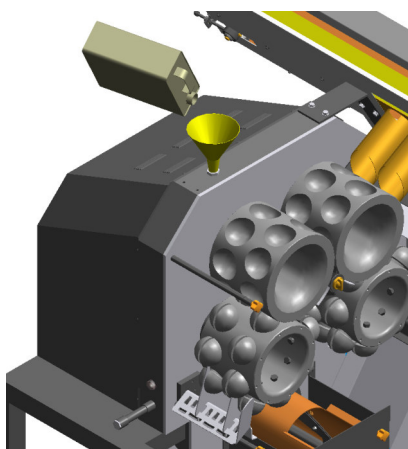

Figure 7
**A) OIL CHANGE ( Fig. 7 ) :** The oil in the case should be changed every six months with a 5-litre container of BESLUX GEAR-ATOX 220 (220 cST).